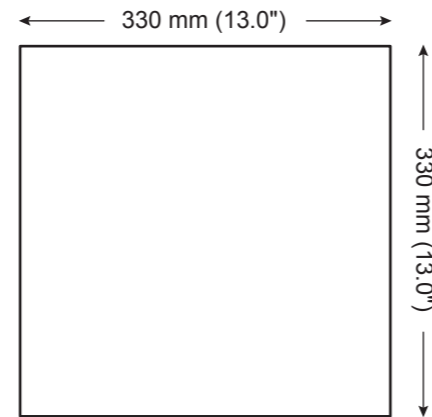

Fig. 12. PCI 45DC Cutout Dimensions
2. Carefully mark out a square in the desired location and carefully cut out a hole in the drywall/plasterboard. Remove any dust and debris from the hole (Fig. 12).